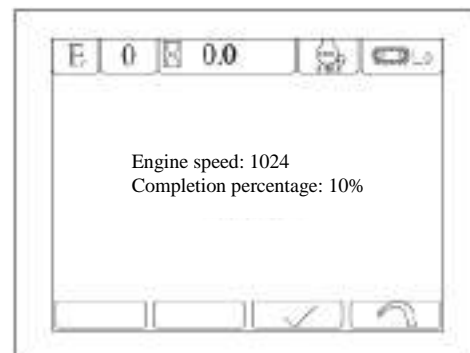

Figure 3-26 Throttle setting interface
e) Setting interface is shown in Fig 3-26.